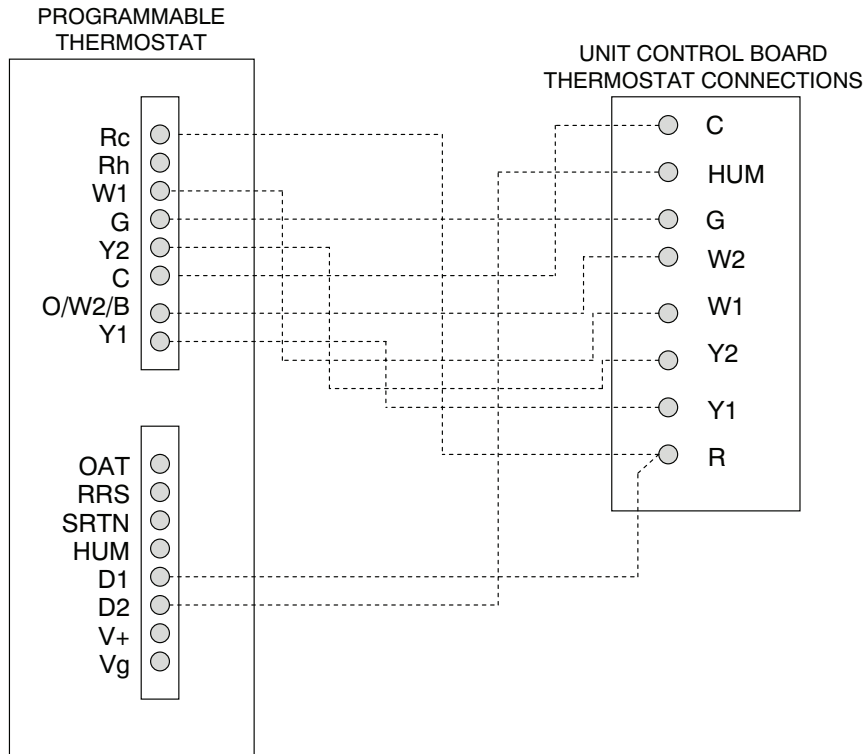

Fig. 42 — Typical Rooftop Unit with Humidi-MiZer® Adaptive Dehumidification System and Edge® Pro Thermidistat Device
3. The Thermidistat has dry contacts at terminals D1 and D2 for dehumidification operation (see Fig. 42). Connect D1 to the R terminal on the UCB. Connect D2 to the HUM terminal on the UCB. Refer to the installation instructions included with the Carrier Edge® Pro Thermidistat device for more information.